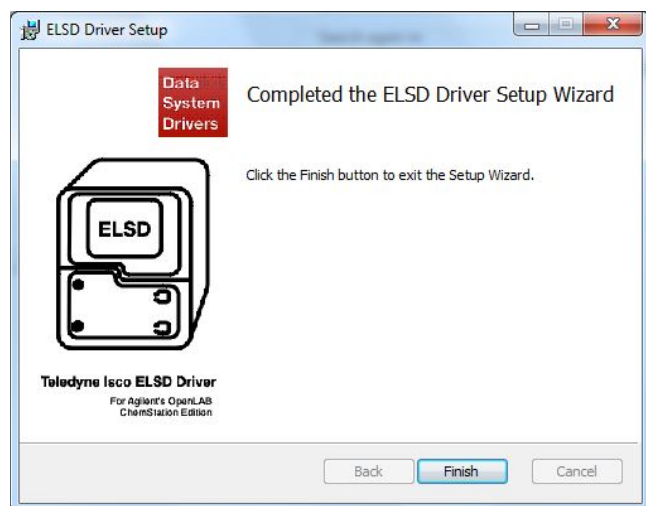

Figure 4: Installation complete
5. Click the **Finish** button to complete the installation (Figure 4).